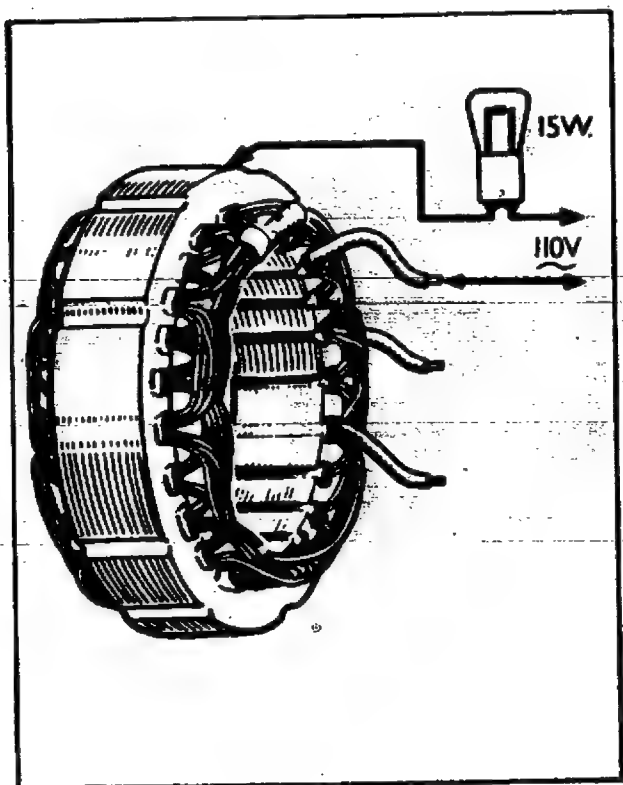

Fig. 27 — Stator Winding Insulation Test
2. Test for defective insulation between stator coils and lamination pack with the mains test lamp (see Fig. 27). Connect the test probes between any one of the three cable ends and the lamination pack. If the lamp lights, the stator coils are earthing and a replacement stator must be fitted.